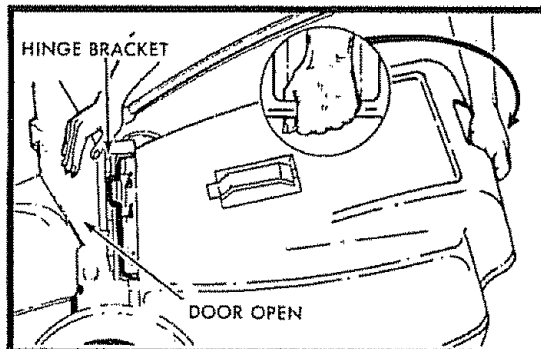

FIG. 3
- Hold catcher by handle and place catcher frame onto hinge bracket (See Fig. 3).